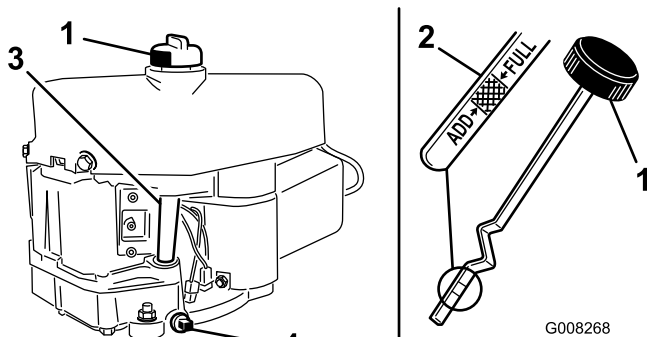

Figure 24
9. Remove the drain plug to allow the oil to drain (Figure 24).
11. Clean around the dipstick and unscrew the cap (Figure 24).
12. Slowly pour approximately 80% of the engine oil into the filler tube (Figure 24).
7. Clean around the dipstick (Figure 24) so that dirt cannot fall into the filler hole and damage the engine.
8. Unscrew the dipstick and wipe the metal end clean (Figure 24).
9. Screw the dipstick fully onto the filler tube (Figure 24).